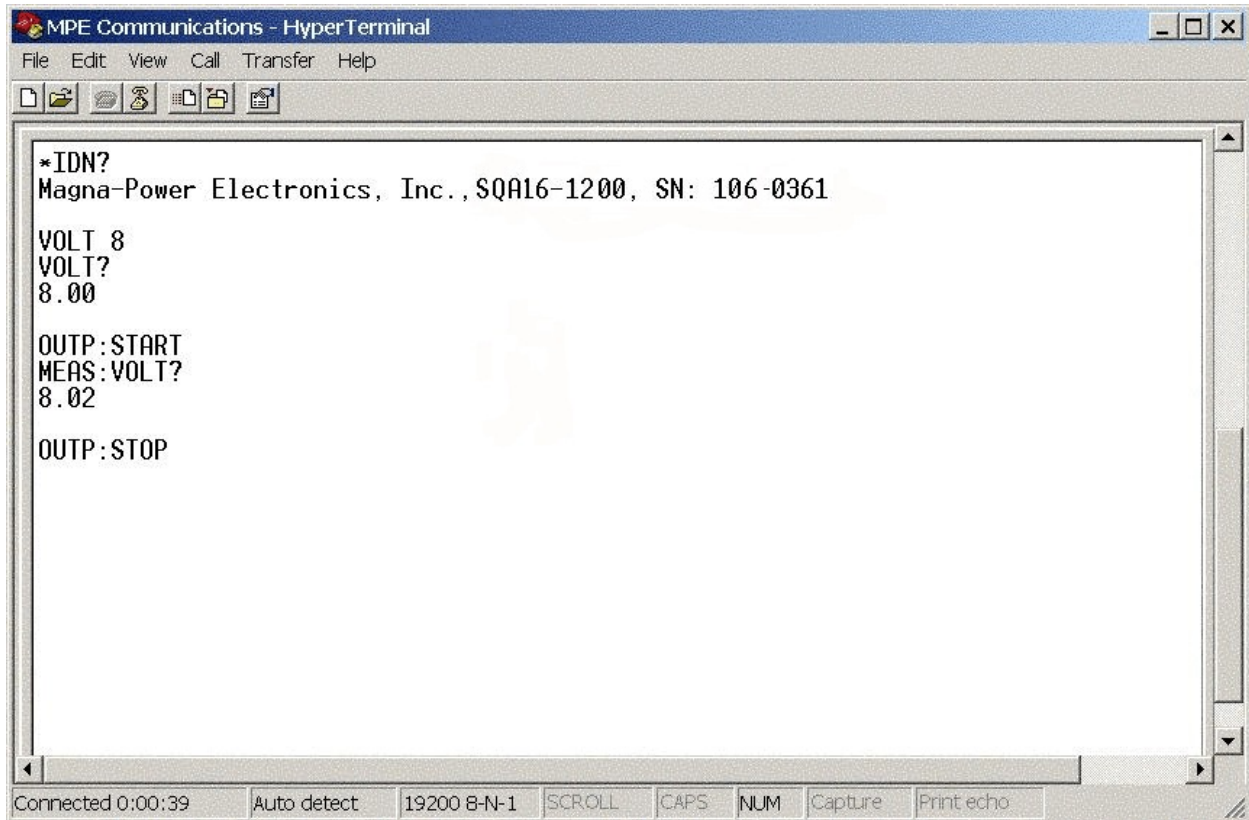

Figure 4.1 RS-232 Communications using Microsoft Windows (tm) HyperTerminal
7. As illustrated in figure 4.1, the returned data will display the following: “Magna-Power Electronics, Inc., SQA16-1200, SN: 106-0361” where the model and serial number may be different depending on the unit being tested.